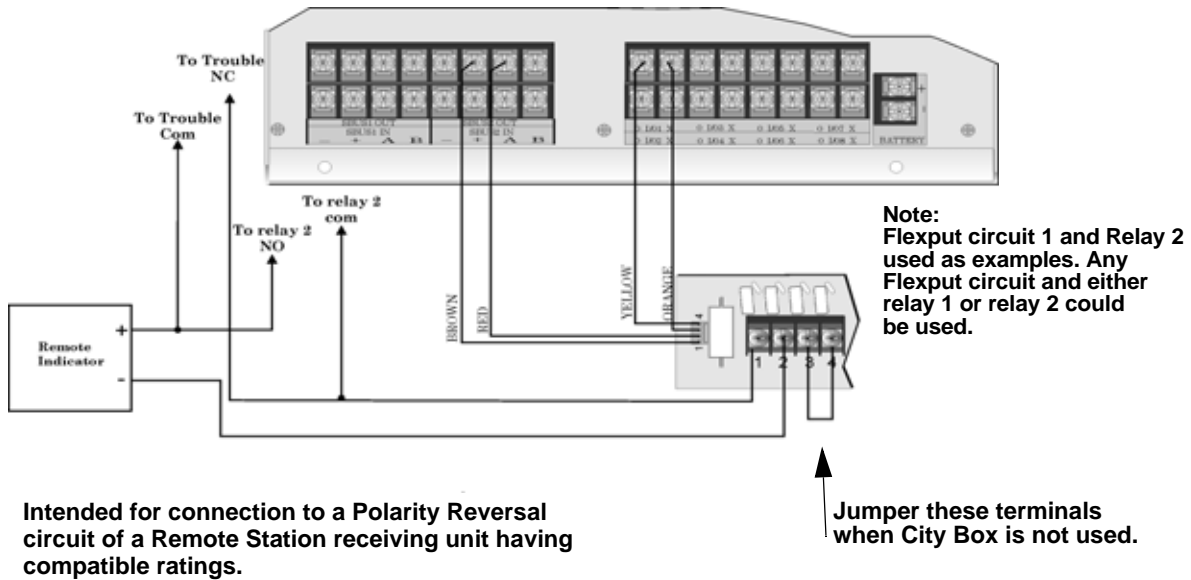

Figure 4-44 Polarity Reversal Connection Using the 5220 Module
2. Wire the 5220 to the control panel using the four-wire pigtail provided as shown in Figure 4-44. This diagram also shows how to connect the 5220 to the remote indicator. Do not install an EOL resistor in the terminals of the flexput circuit used for this application.